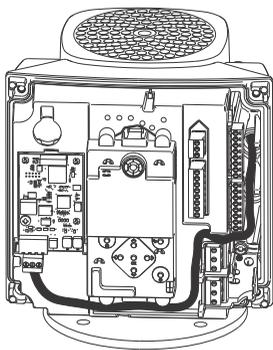

Fig. 78 Example of wire routing
8. Route the wires for the CIM module. See the example in fig. 78.